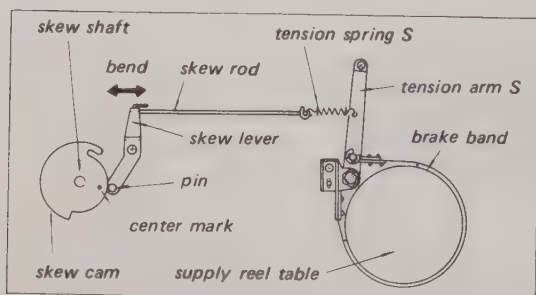

Fig. 5-23. Setup for forward back tension check
3. Bend the tang of the Skew Lever for the correct reading. See Fig. 5-23.